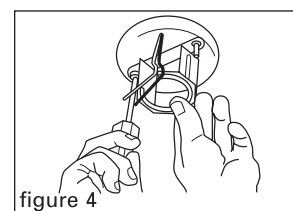

figure 4
4. After ceiling is complete, remove Saf-T-Cap® and locknuts. Using the locknuts, mount fan or fixture bracket to fan box and complete wiring according to fan or fixture manufacturer's instructions (figure 4).